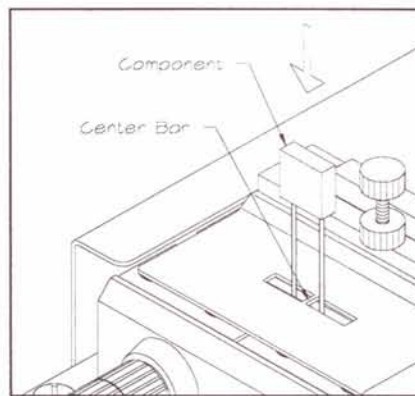

Figure 6
1. Insert a component into the machine with one lead extending down the right side of the center bar and the other lead down the left side of the center bar as shown in figure 6. Seat the component body fully against the cover plate.